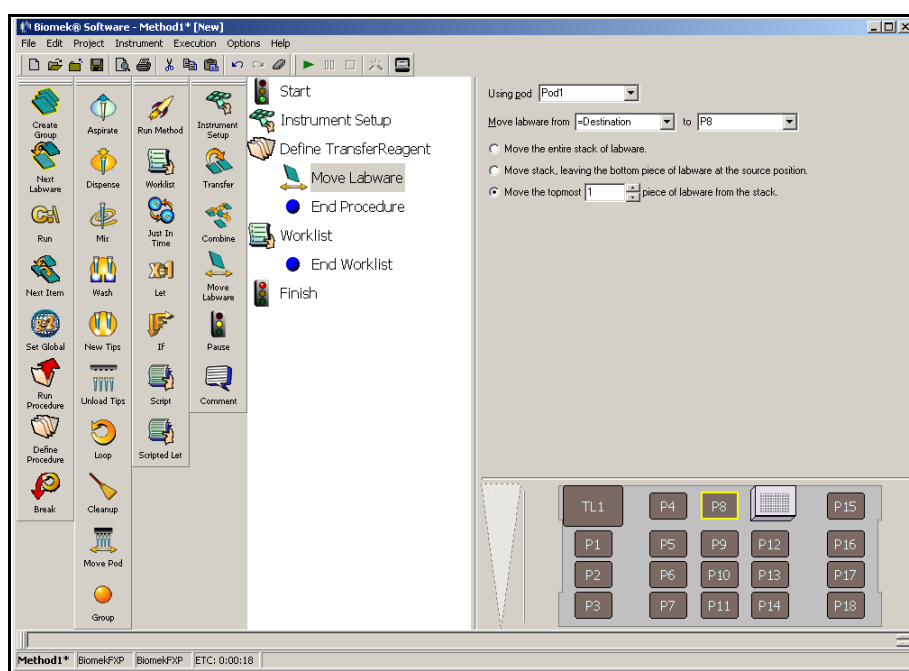

Figure 4-5. Configured Move Labware step
4. Choose **Move the topmost 1 piece of labware from the stack**. This option allows only the lid (the topmost piece in the stack) to be moved. The main editor should look like Figure 4-5.